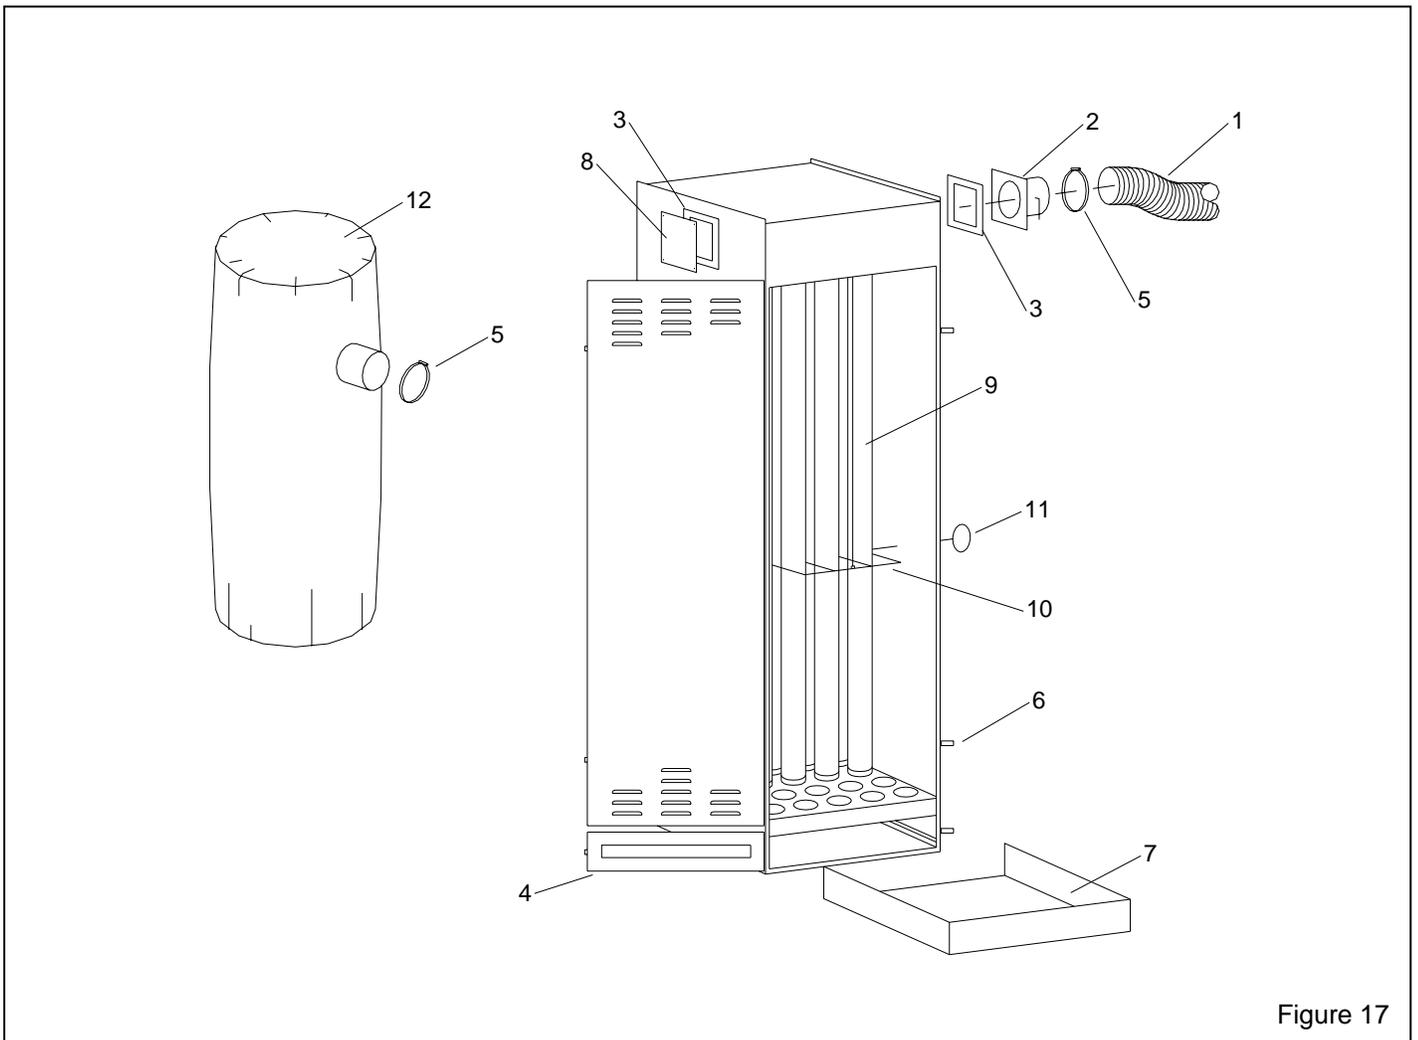

Figure 17
9.9 Dry Filter Dust Collector and Dust Bags, Figure 17